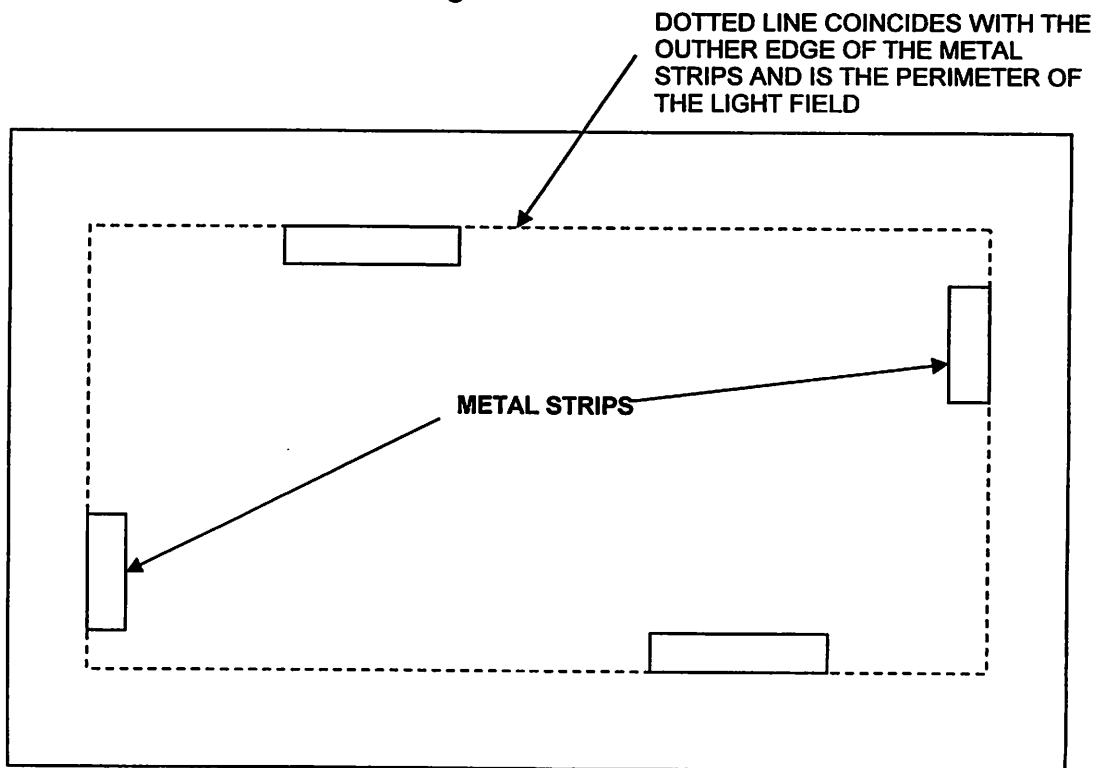

Figure 6.5
3. Position the outer edge of each metal marker on the table top to correspond with each side of the light-field (Fig. 6-5).